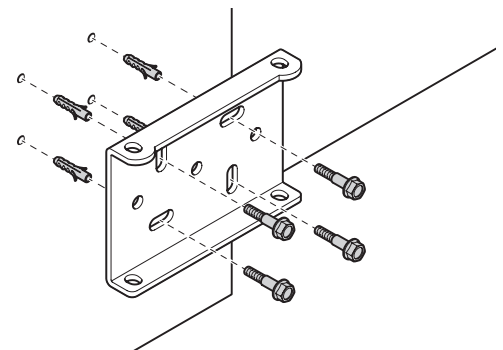

Fig. 5
03. Fix the rear bracket of the motor to the wall complying with the dimensions seen previously (**fig. 5**).